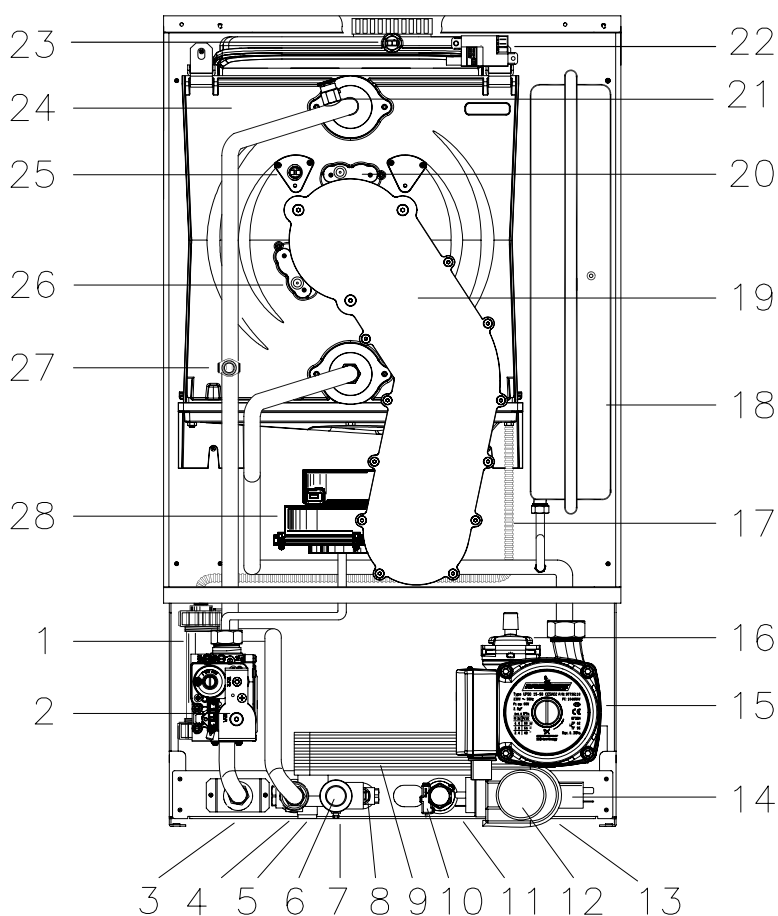

Fig. 1
BASIC COMPONENTS - (See figure 1).
- 1.2** Fig.1 Illustrates the general layout of components.